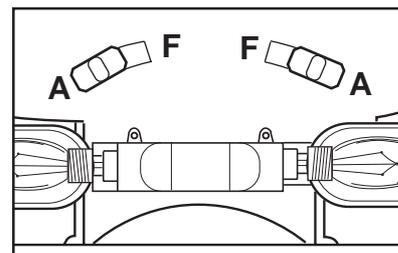

Fig. 8
- Check that the selection lever for evacuation/ recycle is in the position A - external evacuation. (Fig. 8).
- Check that the selection lever for evacuation/ recycle is in the position : F - recycle (Fig. 8)